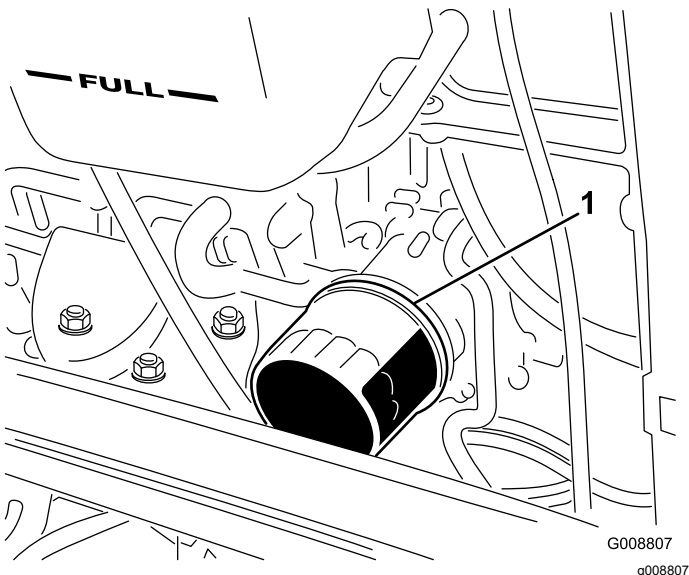

Figure 75
4. Remove the oil filter (Figure 75).